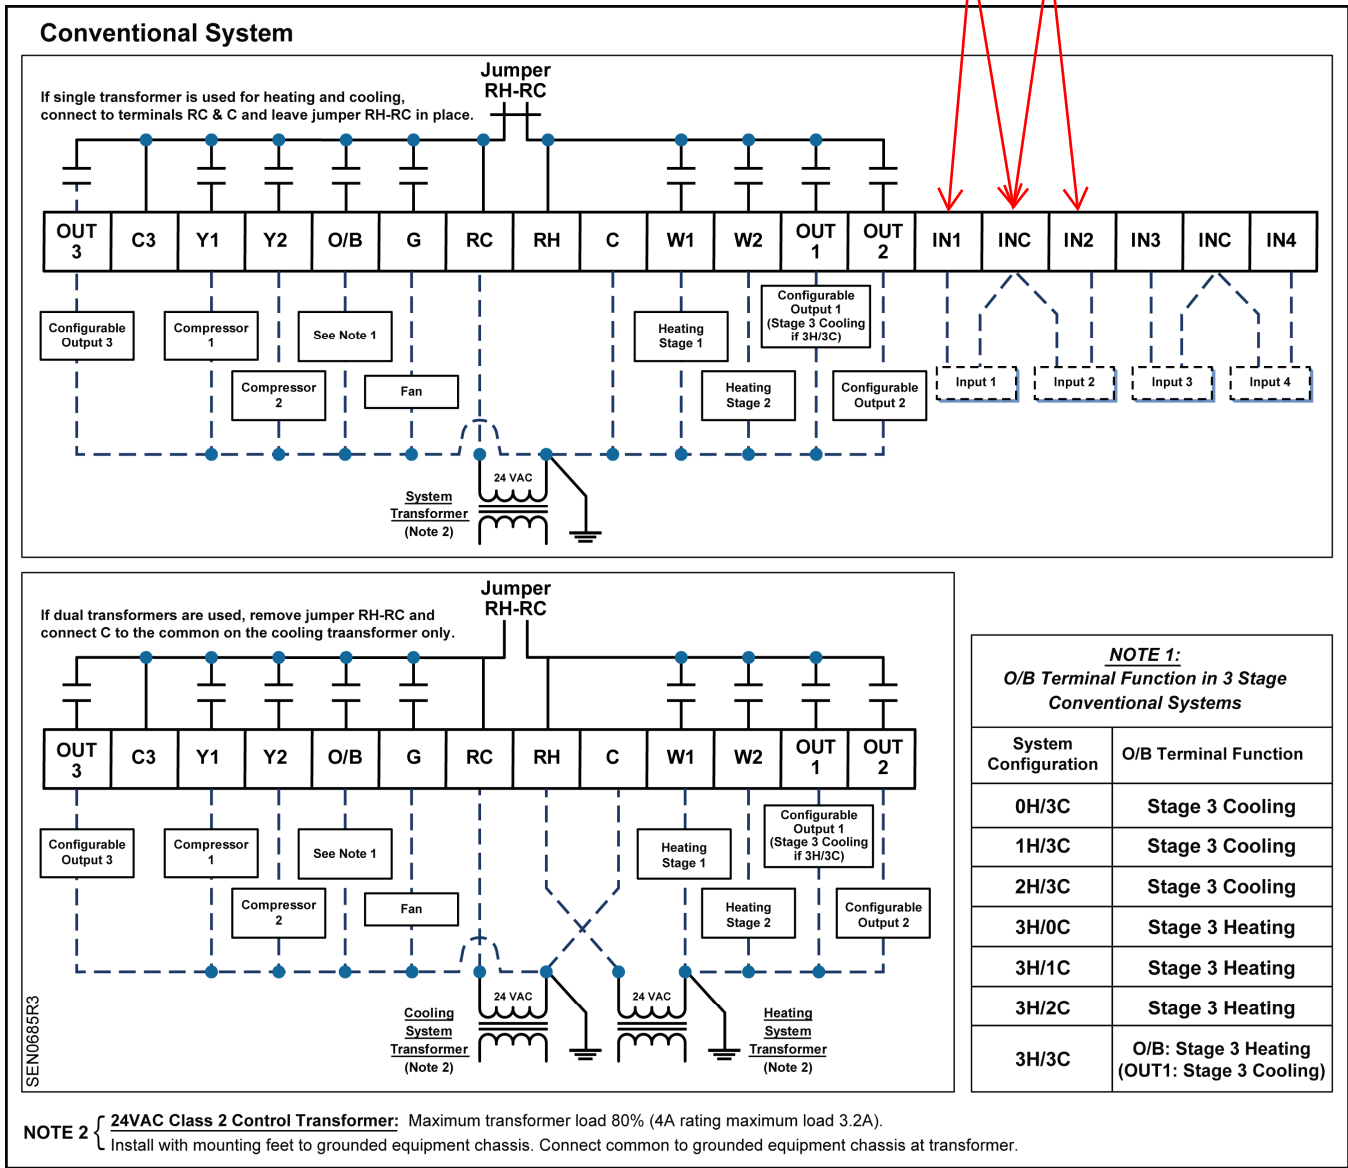
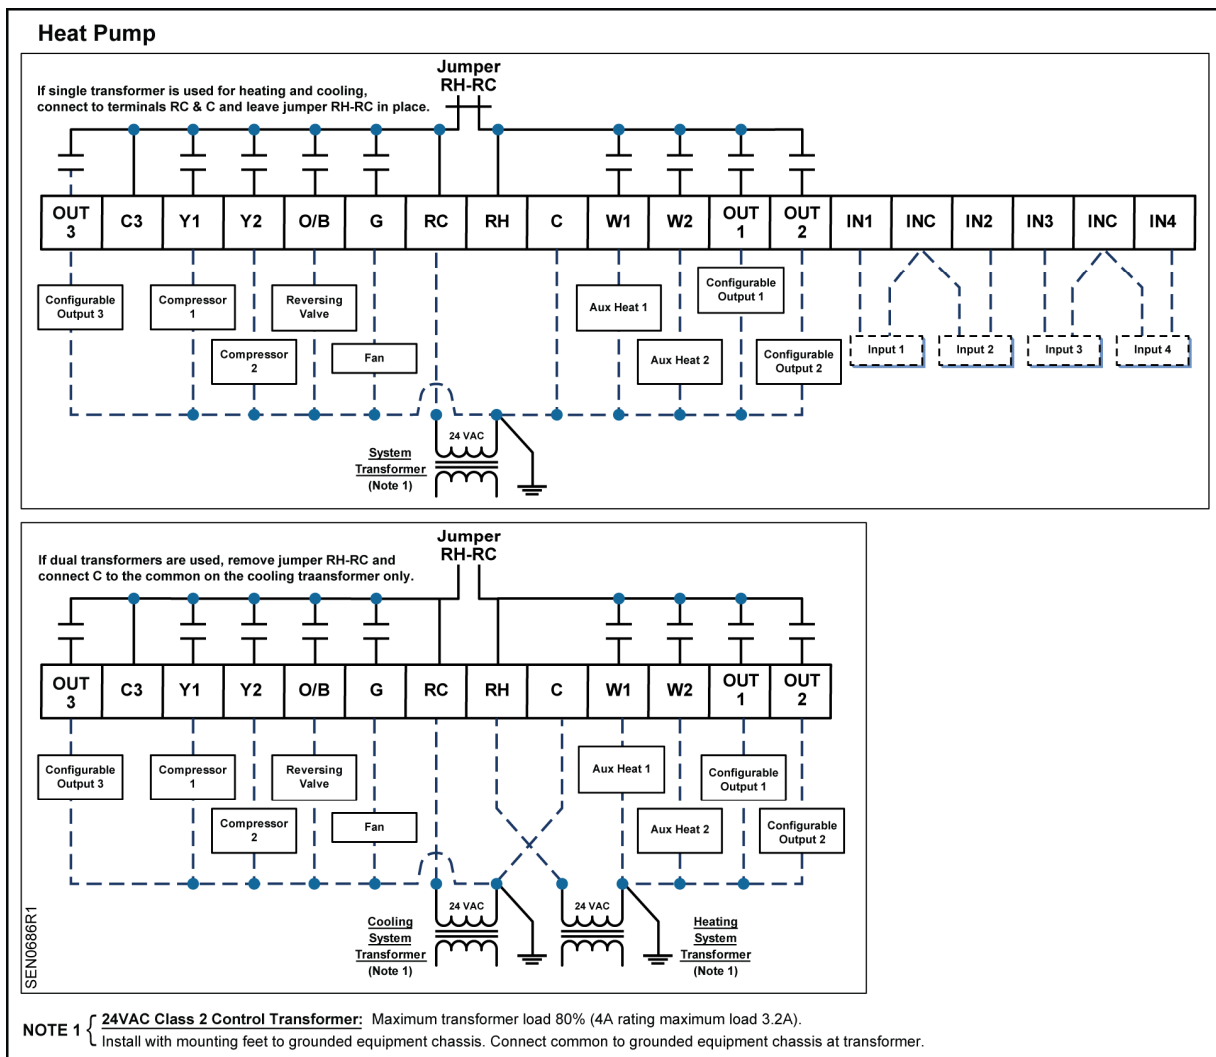

Figure 4. Wiring Schematic, Conventional System.
Figure 5. Wiring Schematic, Heat Pump.
- a. Verify HVAC equipment schematics for required circuit connections to thermostat *Wiring Diagrams*, Figure 4 and Figure 5.